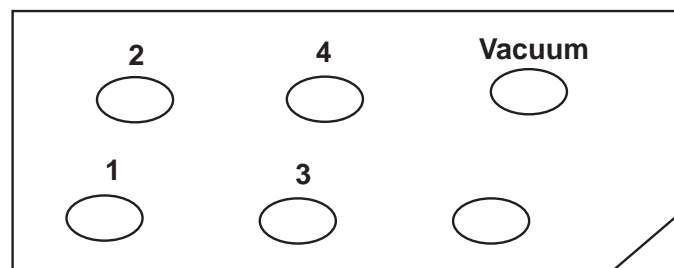

Figure B-1: Internal Manifold (Front/Top Edge)
- Connect tube "A" exiting top of flowmeter to vacuum supply (See Figure B-1)